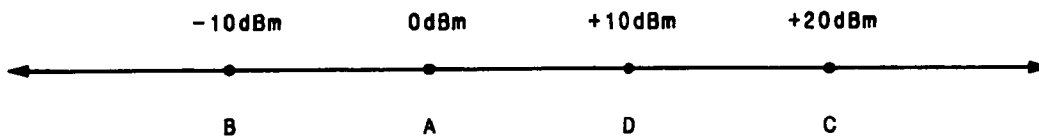
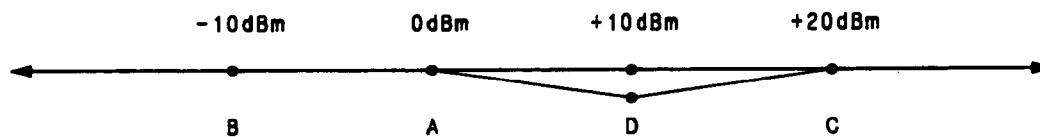

Figure 5-8. Logarithmic Amplifier Response Graph
Figure 5-9. Typical Response Curve
8. Table 5-3 lists the settings and adjustments the proper test equipment and the HP 8349B requires to set a linear response from the dual slope logarithmic amplifier. This table (adjustment points A-D) corresponds to the logarithmic amplifier response graph (shown in Figure 5-8). Ideally, the amplifier's response would be flat across the graph but deviation does occur. Adjustments A4R14, 14, 23, and 34 optimize this response.
- Adjust A4R21 (0) for a 0.0 dBm reading on the HP 8349B display. This sets the 0 dBm point at 0 dBm on the response graph.
10. For Adjustment points B and C, repeat step 9 (a - c) using the settings listed in Table 5-3. Make a copy of the Logarithmic Response Graph (Figure 5-8), and plot the response curve for points A, B, and C. It should look similar to the response curve in Figure 5-9.